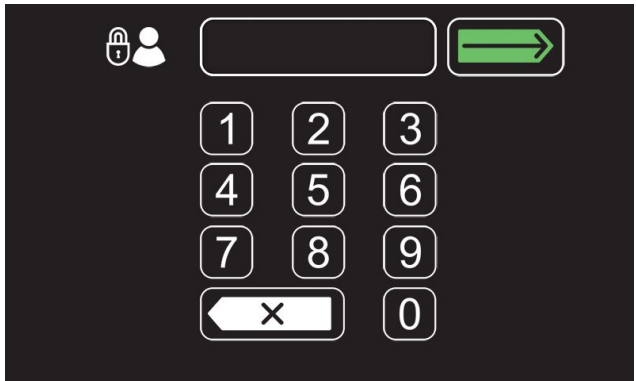

FIG. 158
8. To enable the login screen at start up (Figure 158), see Enabling the Login.